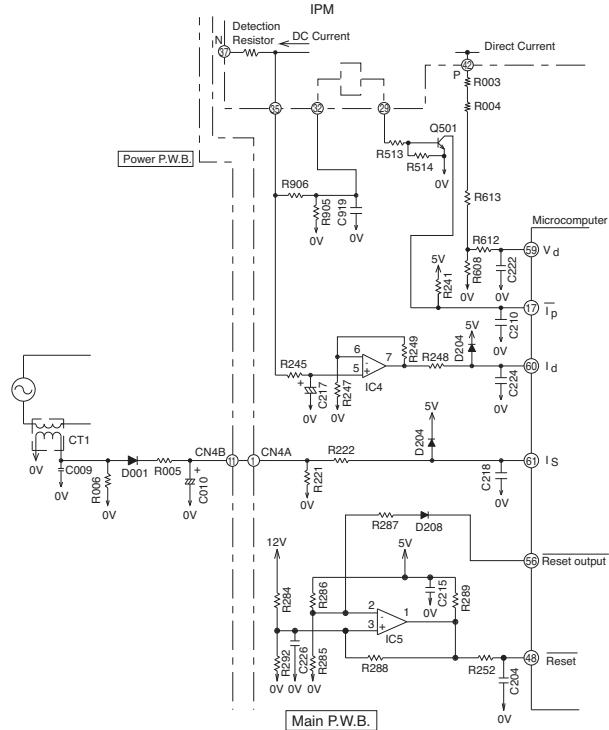

Fig. 6-2
Fig. 6-2. The filter consisting of R245 and C217 removes high harmonic frequencies from the voltage generated by the current flowing to Detection resistor; R245 and C217 average the voltage. This voltage is then input to IC4 pin ⑤ and supplied to microcomputer pin ⑥0. The microcomputer compares this input with the set value, and if the input exceeds the set value, it enters overload control status.